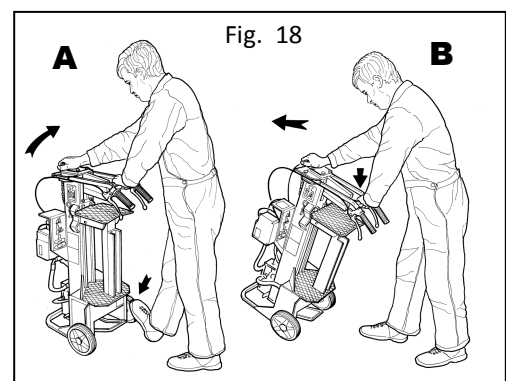

Fig. 18
Place one foot on one wheel and grip the two handles (A). Incline the machine slightly and push it to transport it (B). (Fig. 18)